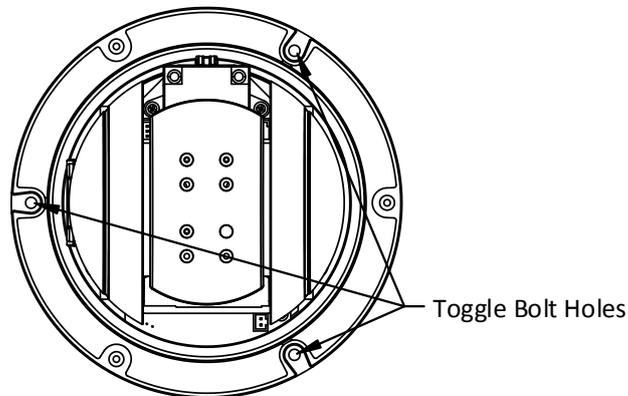

Figure 2-23 Toggle Bolt Holes
- 2) Insert the bolts into the screw holes on the dome as shown in Figure 2-23.